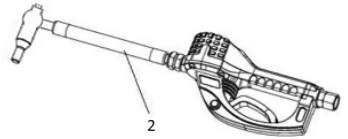

FIG. 3
1. Thread extension tube fitting (2) into meter outlet with at least three full turns. (FIG. 3). Do not use a twist/lock or manual shut-off nozzle. You must use an automatic nozzle on the meter or the meter could be damaged.